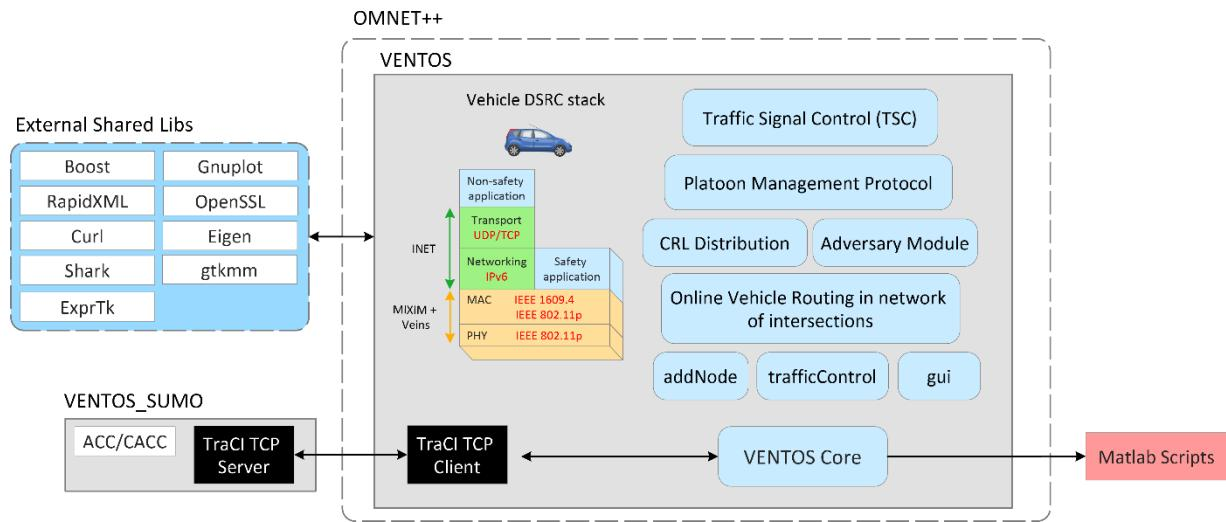

Figure 1: VENTOS architecture
- OMNET++ is an open-source, extensible, modular, component-based C++ simulation package and captures the wireless communication simulation. IEEE 802.11p physical layer modeling and IEEE 1609.4 are implemented in the Veins (Vehicles in Network Simulation) framework and is used for wireless V2X communication between different modules. Many well-known TCP/IP protocols can be added from INET framework. Figure 1 shows the VENTOS architecture.
The functionality of the VENTOS modules depicted in Figure 1 is described in the following: